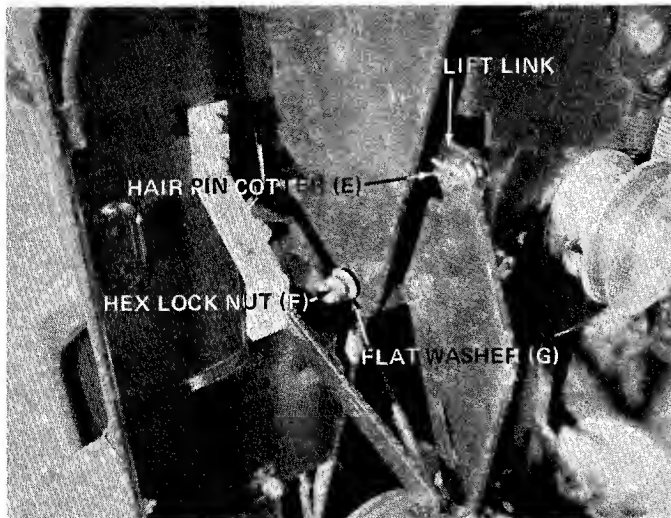

FIGURE 17
15. Place the idler assembly in position between channel supporting brackets and start hex lock nuts (F) and flat washers (G) over weld studs as shown in figure 17.
16. Place lift handle links down through idler assembly and secure to linkage brackets with hair pin cotters (E). See figure 17.